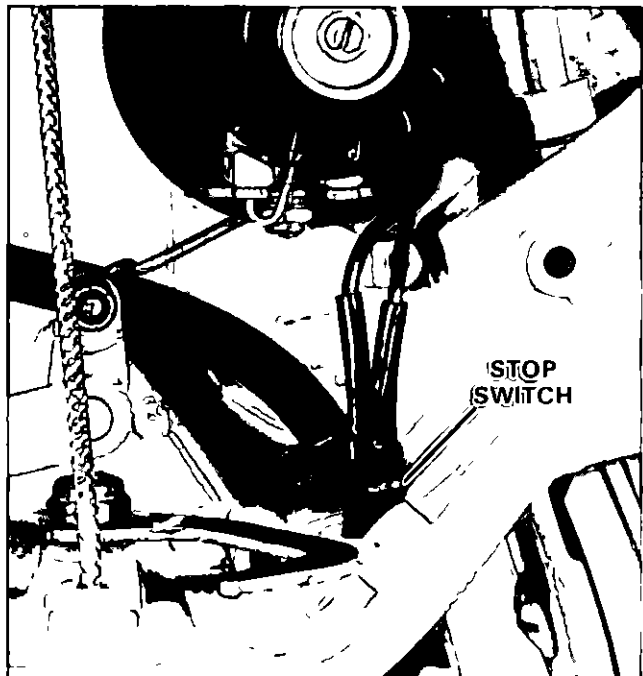

Figure 6. Disconnecting Stop Switch
- 4 Disconnect primary wires from stop switch Figure 6